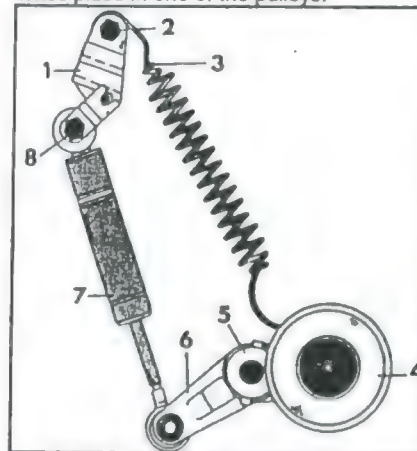

Fig. 1.89. - The component parts of the belt tensioning system.
The tensioner roller of the system is held under constant tension by means of a tension spring. A fitted shock absorber prevents vibration in the belt system. Fig. 1.89 shows the component parts of the system in detail. The tensioning rollers are not the same on all engines.
- Refer to Fig. 1.89 and slacken the flanged nut for the tensioning lever (1). Insert a suitable drift into the spring tensioning lever (1). The drift should have a diameter of 12 - 13 mm and must be 300 mm long.